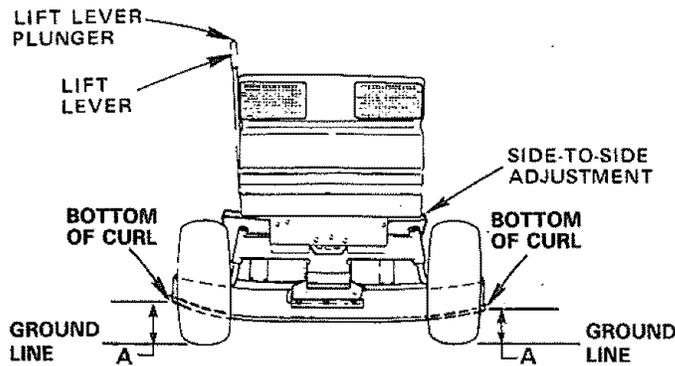

FIGURE 32
- Measure height from bottom of curl to ground level at front of mower. Distance "A" should be the same on both sides (Fig. 32).